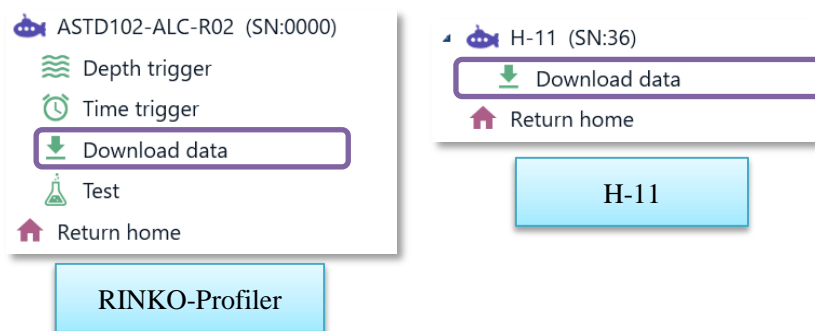

Figure 6.21 Examples of “function menu”
- (3) Choose “Download data” from “function menu”. (Figure 6.21)